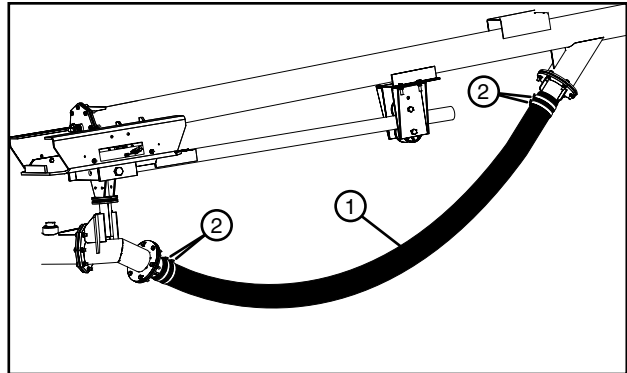

Figure 34-1 1. 4-1/2 in Hose
If the 4-1/2 in (11.4 cm) hose is sufficiently weather-cracked, checked, or leaking, you need to replace the hose. Follow the steps below to replace the 4-1/2 in (11.4 cm) hose. See Figure 34-1.
1. Loosen the hose clamps. See Figure 34-1.
5. Tighten the hose clamps. See Figure 34-1.